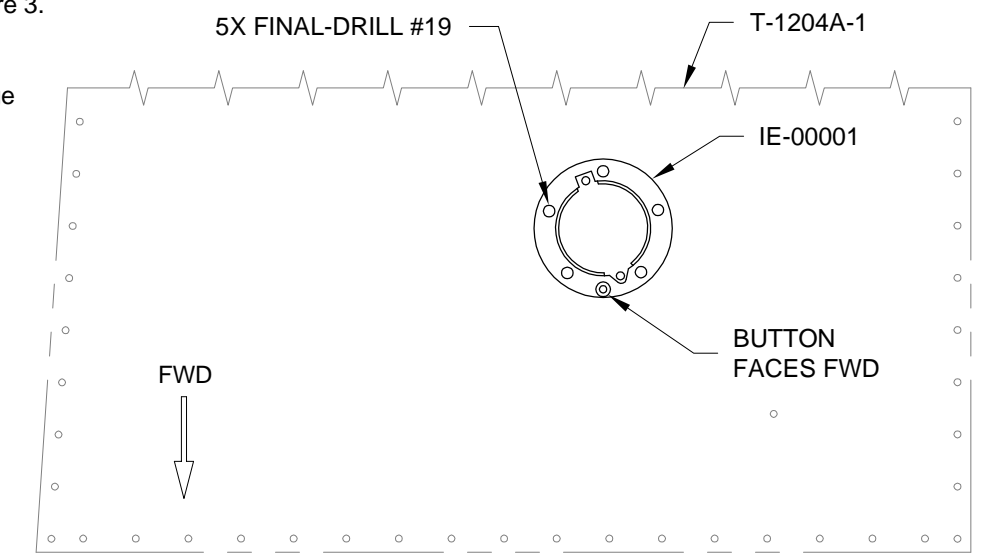

FIGURE 3: MECHANICAL FUEL GAUGE ORIENTATION
Step 3: Insert the the IE-00001 Mechanical Fuel Gauge into the T-1204A-1 Top Tank Skin shown in Figure 3.
Final-Drill #19 the #30 holes in the top tank skin through the mechanical fuel gauge flange as shown in Figures 3 & 4. Secure with a nut and screw as each hole is drilled.